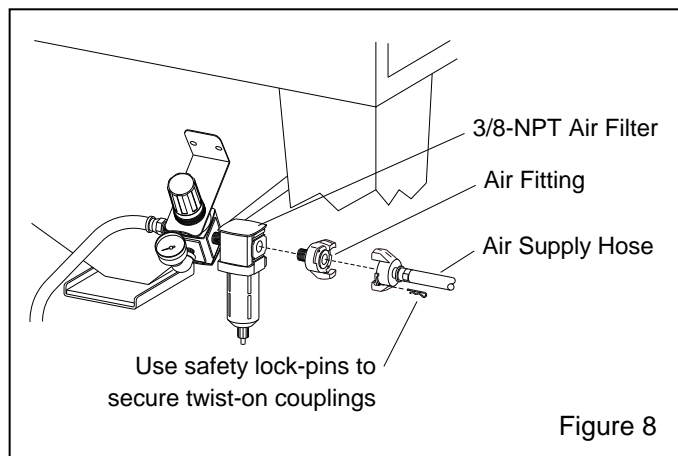

Figure 8
2.3.2 Refer to Figure 8 Apply thread sealant to the male threads of an air fitting that is compatible with the air supply hose fitting, and install it onto the 3/8-NPT air filter located under the cabinet hopper. If preferred, slip a short length of 1/4" tubing over the filter's drain barb to direct drain water into a container. **Note that the style of connection shown in Figure 8 is for reference only.**